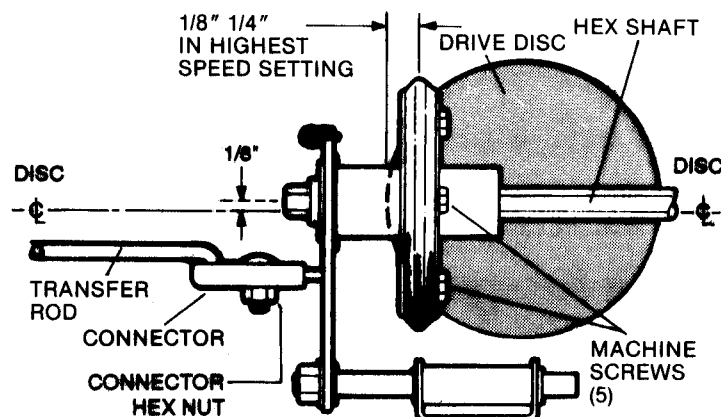

FIGURE 2.12
- (c) The *CENTER* of the rubber ring should be 1/8" to 1/4" from the left *EDGE* of drive disc as shown. See Figure 2.12.
- 2. Check the "TRACKING POINT". The rubber ring should contact the drive disc's surface at a point 1/8" *in front of* an imaginary reference centerline crossing through the center of the drive disc. You may wish to draw the centerline with a pencil. See Figure 2.12.